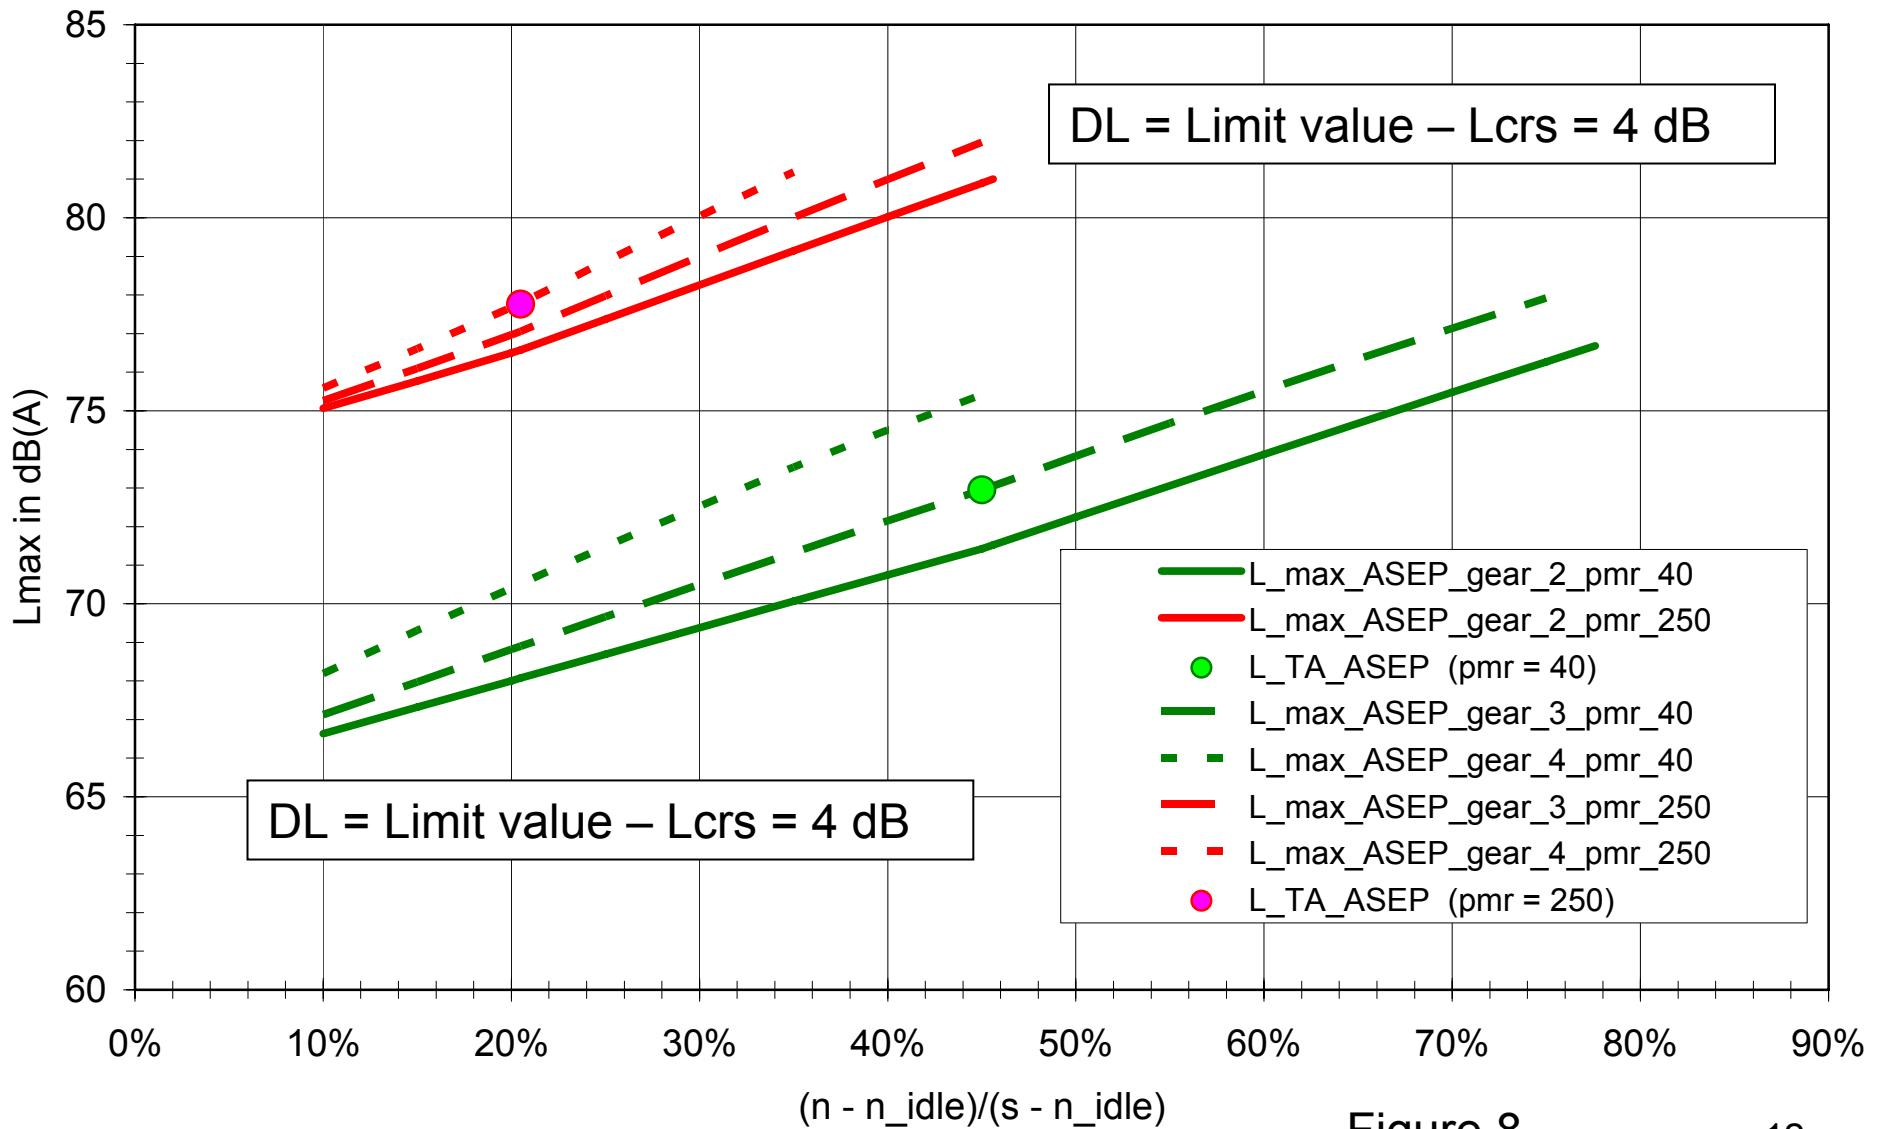

Figure 8
- Examples for $pmr = 40$ and $pmr = 250$ are shown in figures 8 and 9.
- A lower L_{crs} results in higher L_{max_ASEP} (compare figures 8 and 10).